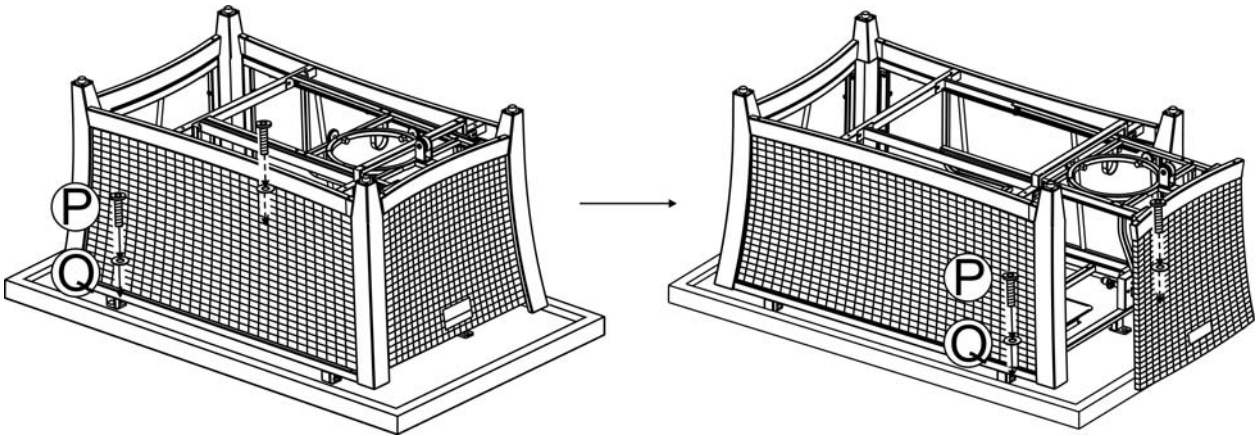

Figure 3
2. Place the firepit base onto the tabletop. Secure the end of firepit base to the tabletop by using the 1/4" x 20mm screws and washers that are provided. Then open the door and secure another side of firepit base to the tabletop. See Figure 3.